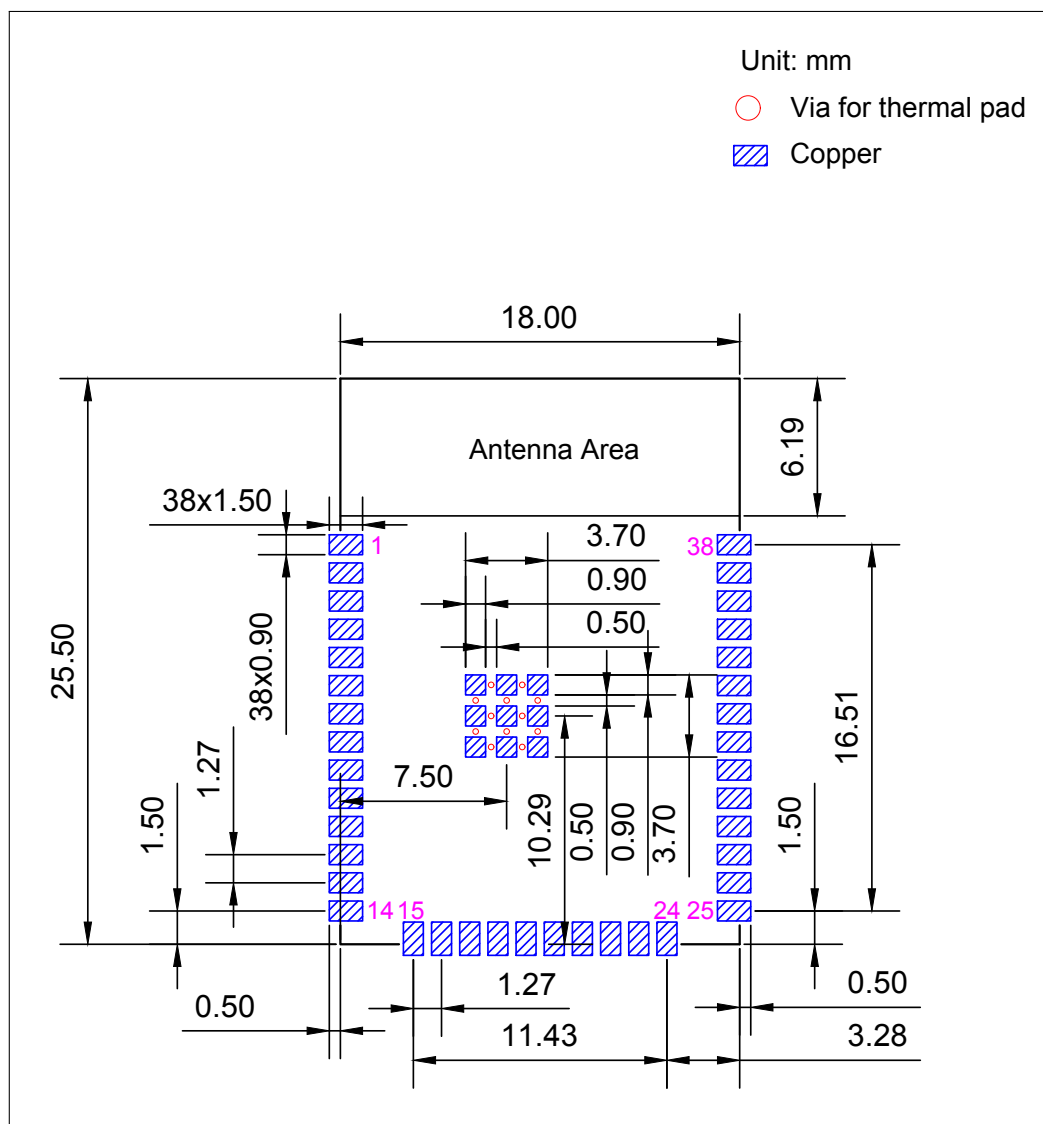
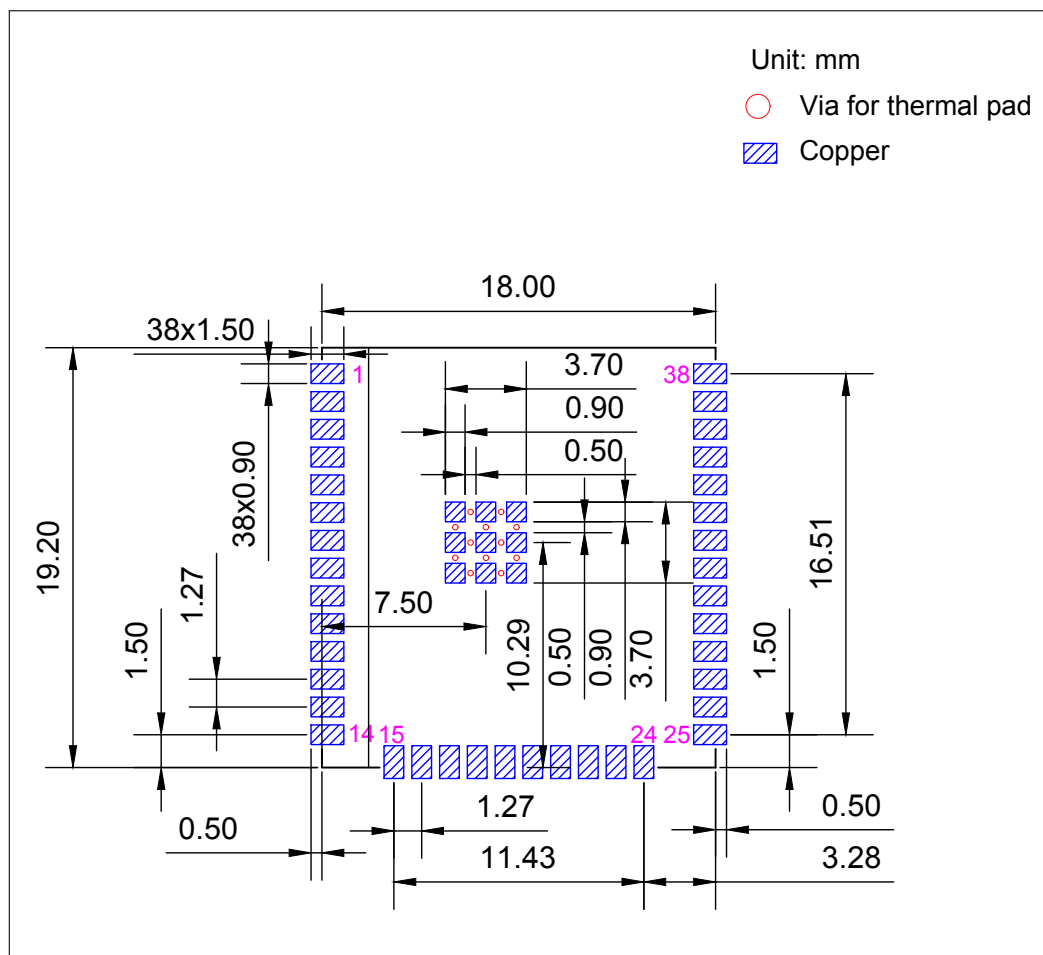

Figure 11: Recommended PCB Land Pattern of ESP32-WROOM-32D
Figure 12: Recommended PCB Land Pattern of ESP32-WROOM-32U
- Figures for recommended PCB land patterns with all the dimensions needed for PCB design. See Figure 11 *Recommended PCB Land Pattern of ESP32-WROOM-32D* and Figure 12 *Recommended PCB Land Pattern of ESP32-WROOM-32U*.
- Source files of recommended PCB land patterns to measure dimensions not covered in Figure 11 and Figure 12. You can view the source files for ESP32-WROOM-32D and ESP32-WROOM-32U with Autodesk Viewer.
| 2021.02    | v2.1    | <p>Updated Figure 8: <a href="#">Physical Dimensions of ESP32-WROOM-32D</a>, Figure 9: <a href="#">Physical Dimensions of ESP32-WROOM-32U</a>, Figure 11: <a href="#">Recommended PCB Land Pattern of ESP32-WROOM-32D</a>, and Figure 12: <a href="#">Recommended PCB Land Pattern of ESP32-WROOM-32U</a></p> <p>Modified the note below Figure: Reflow Profile</p> <p>Modified the note below Figure 7: <a href="#">ESP32-WROOM-32D &amp; ESP32-WROOM-32U Peripheral Schematics</a></p> <p>Updated the trade mark from TWAI™ to TWAI®</p>                                                                                                                                                                                                                                                                                                                                                                                                                             |
| 2019.09 | v1.9    | <ul style="list-style-type: none"> <li>Changed the supply voltage range from 2.7 V ~ 3.6 V to 3.0 V ~ 3.6 V</li> <li>Added Moisture sensitivity level (MSL) 3 in Section 1.1: <a href="#">Features</a></li> <li>Added notes about "Operating frequency range" and "TX power" under Table "Wi-Fi Radio Characteristics" which later was updated to several tables in Section 6: <a href="#">RF Characteristics</a></li> <li>Updated Section 8 <a href="#">Peripheral Schematics</a> and added a note about RC delay circuit under it</li> <li>Updated Figure 11 and Figure 12 <a href="#">Recommended PCB Land Pattern</a></li> </ul>                                                                                                             |